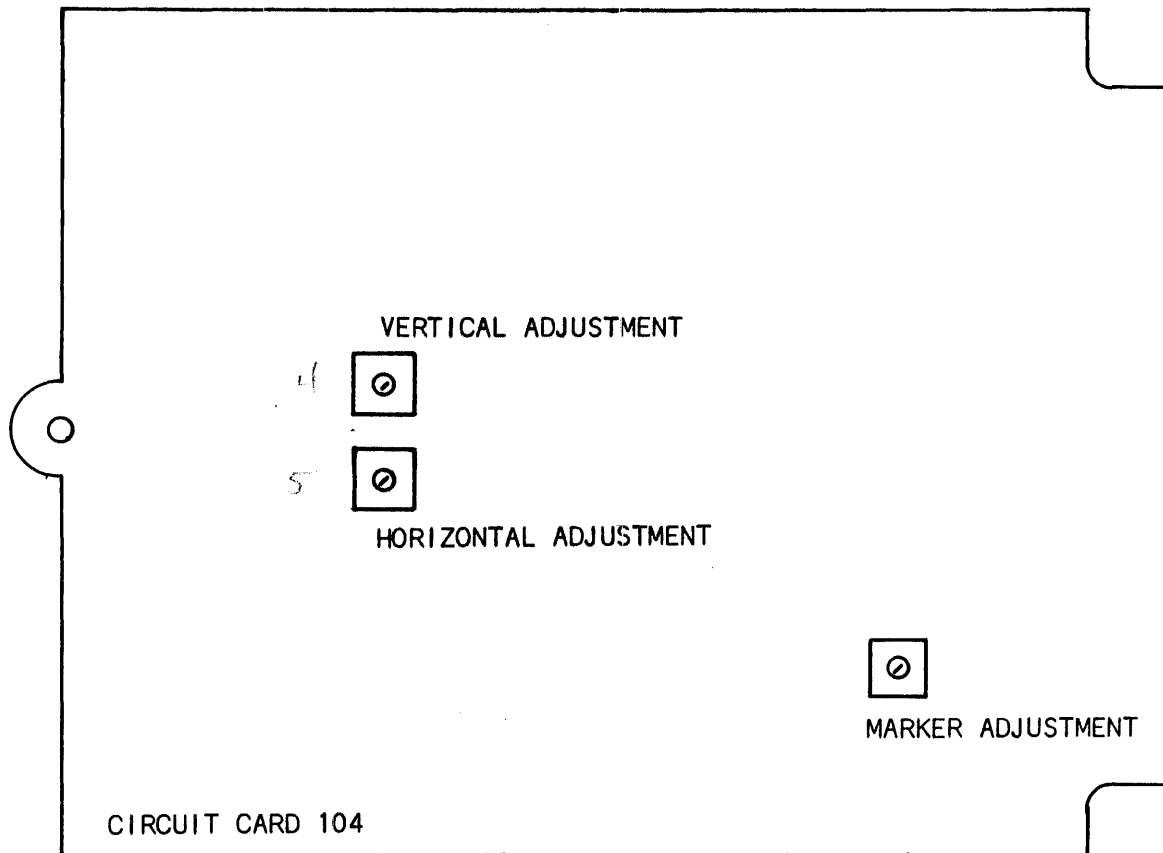

Figure 5-2. ND4410 Control Module, Adjustment Locations
5-26. Three ND4410 adjustable components are located on board 104. Refer to Figure 5-2 for adjustment locations. The following paragraphs list the adjustable components in the ND4410 Control Module, describe preferred adjustment methods, and specify tolerances. Extend board 104 using extender card, part number ND72-0219.
b. Adjust vertical adjustment potentiometer (Figure 5-2) for proper positioning of horizontal display ($Y = 0$).
b. Adjust horizontal adjustment potentiometer (Figure 5-2) for proper positioning of vertical display ($X = 0$).
b. Adjust marker adjustment potentiometer (Figure 5-2) for proper positioning of markers.